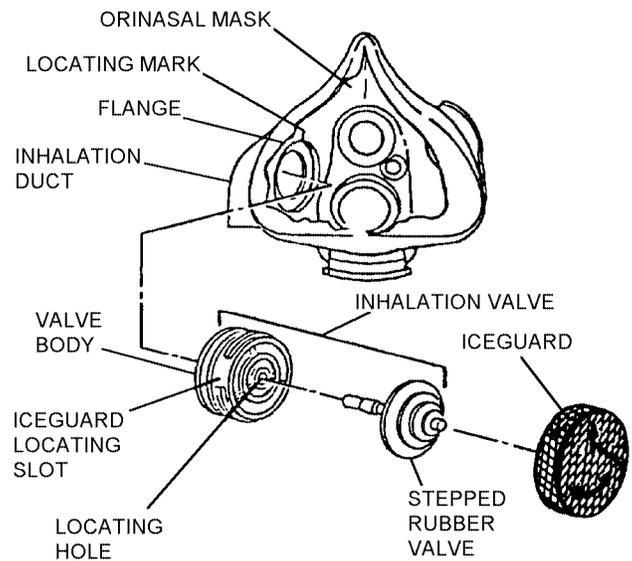

Figure 4-13. Inhalation Valve
**4-16. Inhalation Valve and Iceguard.** The inhalation valve (figure 4-13), mounted on the left side of the orinasal mask, consists of a molded plastic valve seat, with a stepped rubber valve inserted into the molding by its shaft. An iceguard, in the form of a fine mesh, covers the outlet port of the valve. The iceguard is retained in position by lugs engaging slots in the valve seat. The inhalation valve reseats during exhalation, making it easier to exhale while preventing excessive loss of oxygen or air through the compensated exhalation valve.